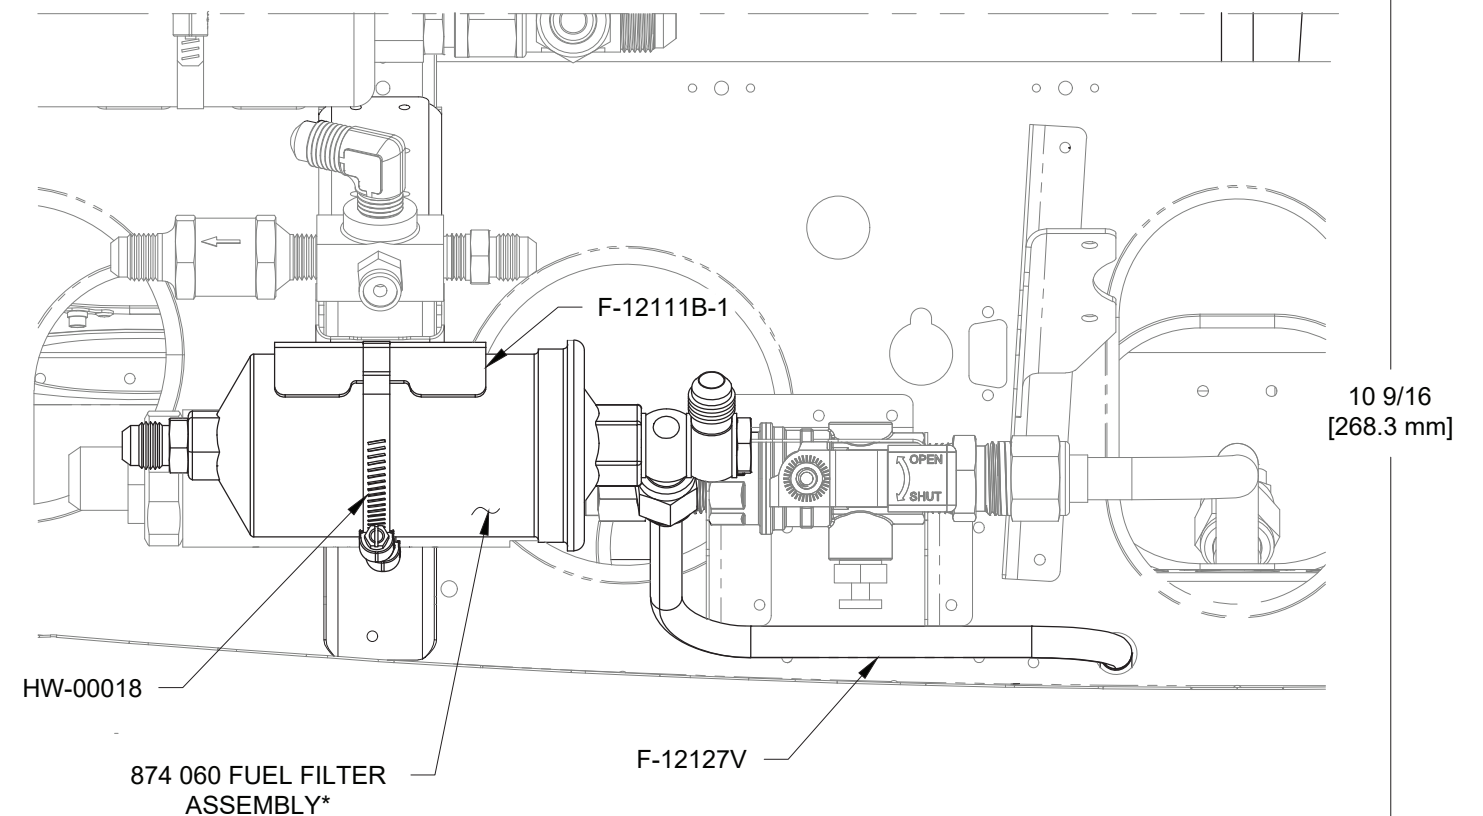

FIGURE 2: 874 060 FUEL FILTER ASSEMBLY* INSTALLATION
Step 6: Attach the F-12127V fuel line to the banjo fitting closest to the fuel filter as shown in the detail view in Figure 2.